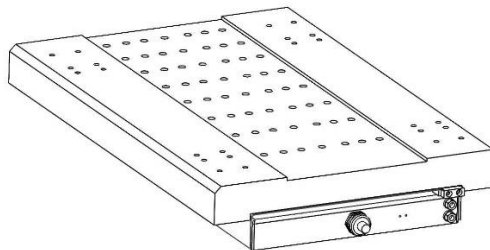

Figure 4.1.3.1.2 Forcer precision water-cooling installation completion view
■ Step to assemble (Stator precision water-cooling) : (refer to figure 4.1.3.1.3 and figure 4.1.3.1.4)
- (1). Fasten the connecting base ① at one side onto the working position of the operating platform.
- (2). Insert the cooling pipes ② into the connecting base ① on the platform.
- (3). If the length of the stator ⑤ is longer, then use the joint method to connect the cooling pipes ②.
- (4). After all cooling pipes ② are installed completely, use the connecting base ⑥ at the other side for adjustment and fastening with the cooling pipes.
- (5). Place the stator ⑤ at the corresponding position on the cooling pipes ②.
- (6). Fasten all stators ⑤. For the fastening method of multiple sets of stators, please refer to the stator installation described in section 4.1.1.2.